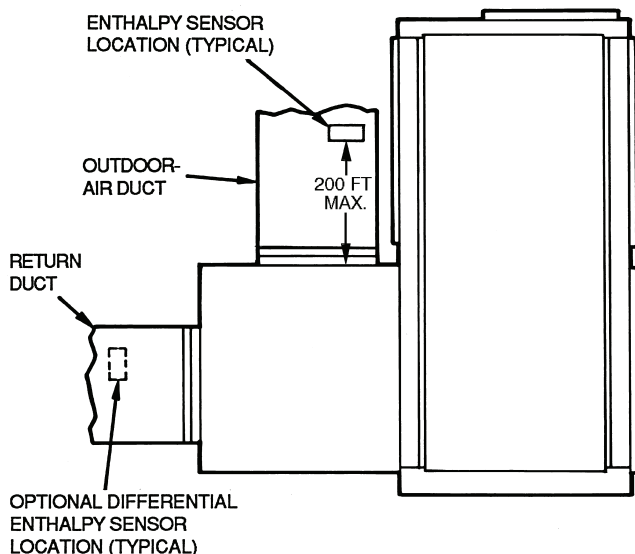
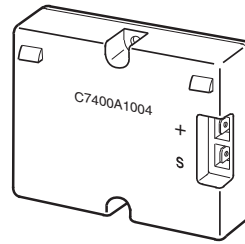

Fig. 11 — Installing the Enthalpy Sensor
Fig. 12 — Enthalpy Sensor
Refer to Fig. 11 and perform the following steps:
3. Mount the supplied enthalpy sensor (Fig. 12) inside outdoor-air duct no more than 200 feet from the unit, as shown in Fig. 11. Use the holes in the sensor base as guides to fasten it to the duct with supplied self-tapping screws, or drill holes into the duct and fasten the sensor in place with field-supplied sheet metal screws.
Applications Using Differential Enthalpy Sensors: Installing Enthalpy Sensors and Connecting Ductwork — Refer to Fig. 11 and perform the following steps:
2. The economizer accessory includes one enthalpy sensor. If economizer operation based on enthalpy differential between outdoor and return air is desired, differential enthalpy sensor part no. HH57AC078 (Honeywell part no. C7400A1004) must be ordered. See Fig. 12.
3. Mount the differential enthalpy sensor inside return air duct as shown in Fig. 11. Use the holes in the sensor base as guides to fasten it to the duct with self-tapping screws, or drill holes into the duct and fasten the sensor in place with field-supplied sheet metal screws.
7. Mount the enthalpy sensor inside outdoor-air duct as shown in Fig. 11. Use the holes in the sensor base as guides to fasten it to the duct with self-tapping screws, or drill holes into the duct and fasten the sensor in place with field-supplied sheet metal screws.